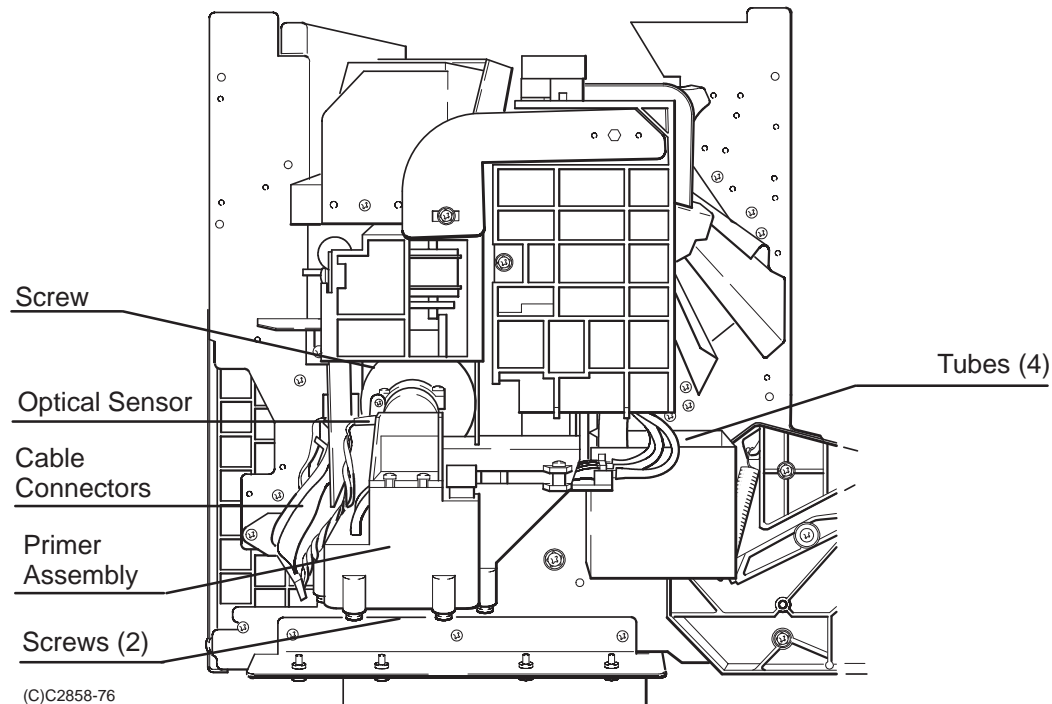

Figure 6-11.
5. Using a TORX T-20 and extension bit, remove the two bottom screws and loosen the top screw, that attach the primer assembly to the left sideplate. See Figure 6-11.